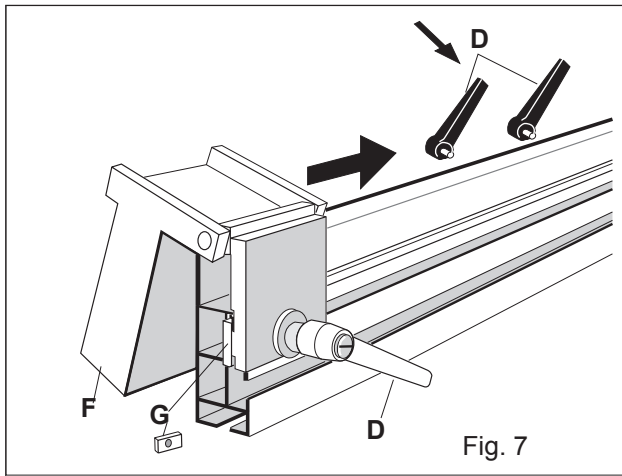

Fig. 7
- Mount hinged extension stop **F** into the fence from rear end by sliding guide nut **G** into slot. Insert locking handle **D** *fig. 7*
- Mount hinged extension stop **F** on rip fence by sliding guide nut **G** into end of slot (*fig. 7*). Insert the locking handles **D** and guide nut **G** in the alu.profile.
- Mount hinged extension stop **F** on rip fence by sliding guide nut **G** into slot (*fig. 7*).